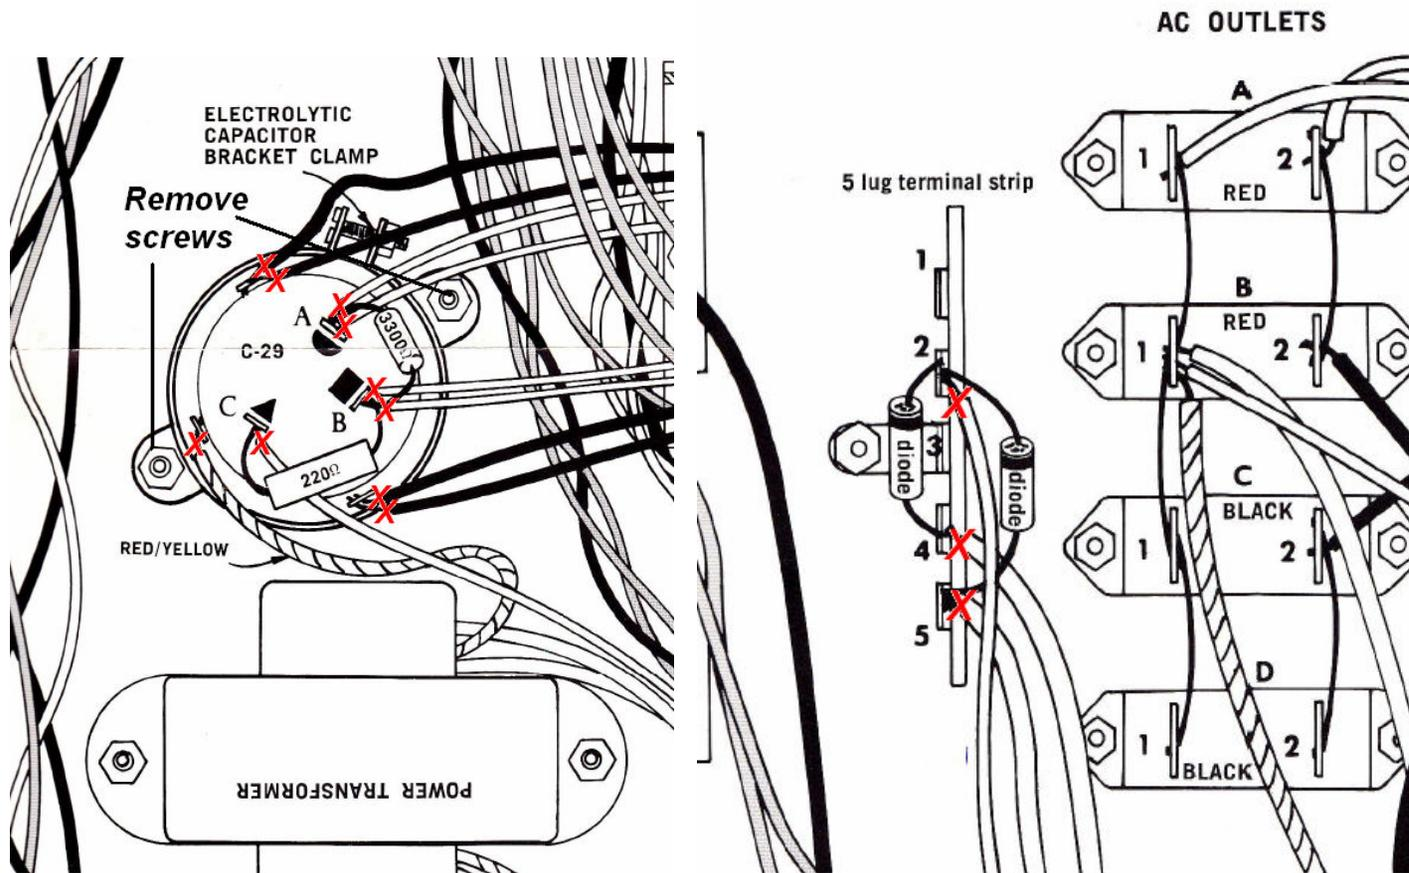

Figure 4-Showing wires to cut and screws to remove
6. Refer to Figure 4. Desolder (or cut close to C29) the following wires from C29, the tall 3-section capacitor. As you de-solder each wire, place a masking tape label on the wire to aid re-assembly (if directed to do so).